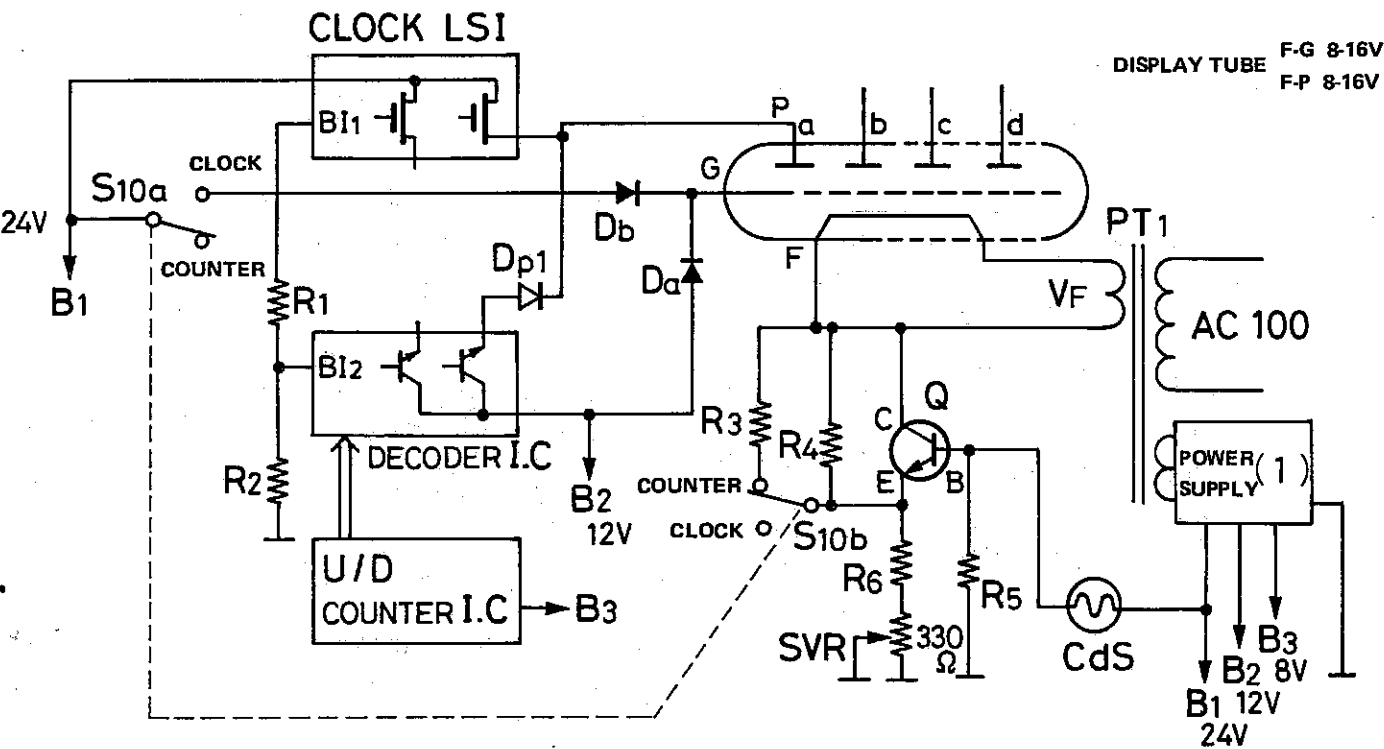

Fig. 7
As is clear from Fig. 7, the output from the decoder IC is connected to the LSE output through a diode (Dp), and then both outputs are supplied to each of the segment plates (P) of the display tube. Switching of display is done by the switch S10a, which closes, alternatively, on the clock side and the counter side, and supplies a voltage of 24V to the blanking (B1) terminal of each IC. The output of the clock LSI is turned ON when 24V is applied to the BI1 terminal, and the clock LSI will present a high impedance when BI1 is at a potential of 0V.
In Fig. 7, the switch S10b is interlocked with S10a. When the switch is closed on the counter side, R3 will be grounded, and the 330Ω resistance of SVR will be connected in series with the transistor Q. This causes a voltage of about 10V to be applied between P and F of the display tube, and makes it operate in a normal way. At this time, +B1 is applied to Q through CdS, so that the working resistance across C and E of the transistor can be varied with the base voltage, that is, with the amount of photo-resistance presented by CdS. This working resistance across C and E, as a composite resistance in parallel with R3, will change the voltage between P and F of the display tube to vary its brightness. When S10b is closed on the clock side, all the voltage will be applied across the transistor Q, and the voltage between P and F of the display tube will be reduced to somewhere between 10V and 12V, thus making the tube operate in a normal way. Of course, this voltage varies between 3V and 14V depending on the brightness of the environment. R4 is inserted in the circuit in order to ensure a minimum amount of brightness even when the CdS receives no light.